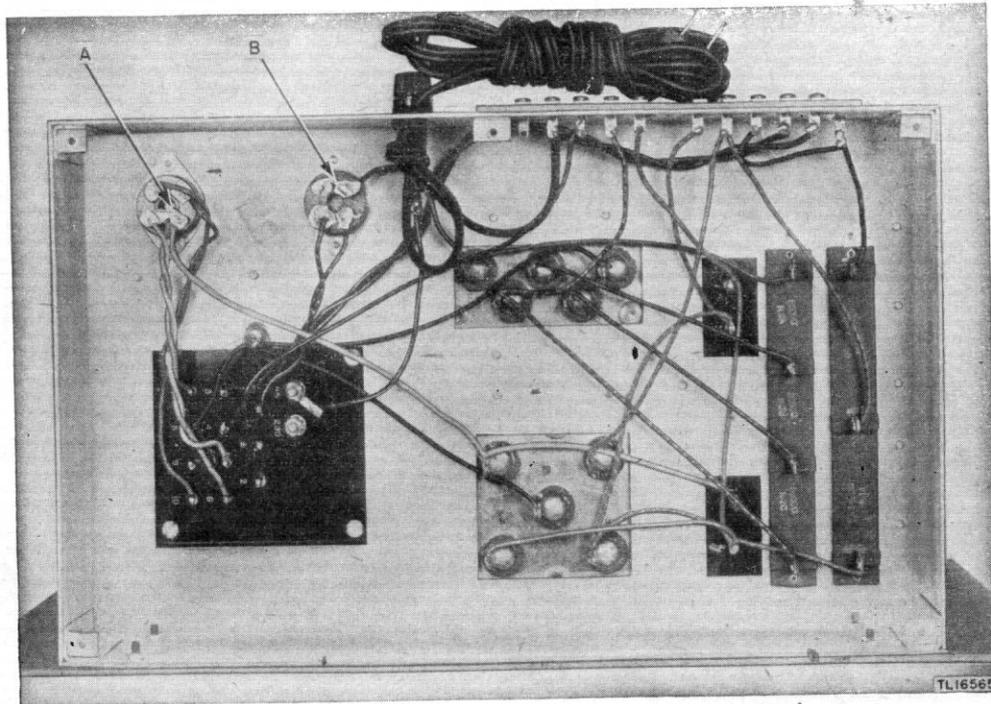

Figure 22. Power Supply Unit RA-94-A, bottom view of chassis, showing masking.
### 55. Power Supply Units RA-74-(\*), RA-84-(\*), and RA-94-A (figs. 22 and 23)
(1) Contacts of tube sockets (A and B, fig. 22).